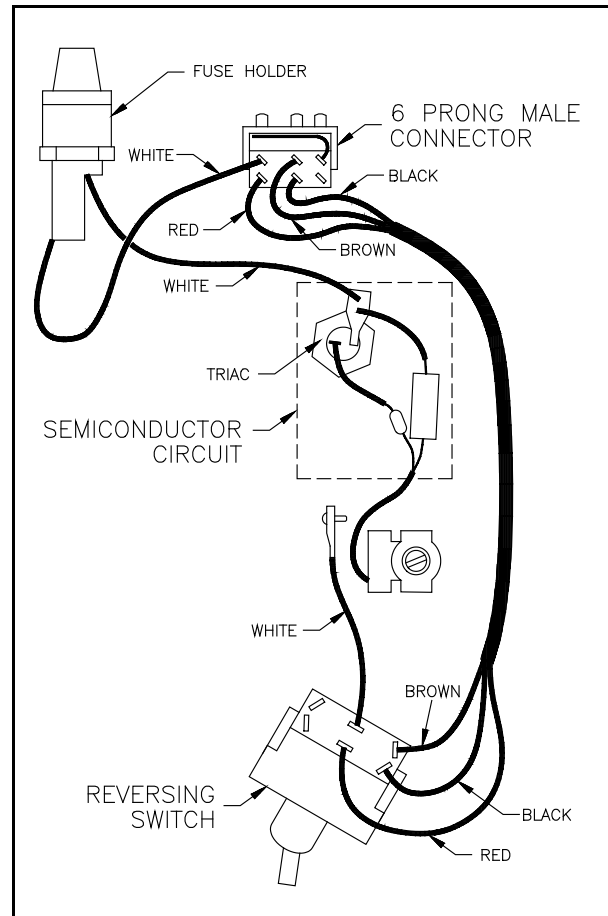
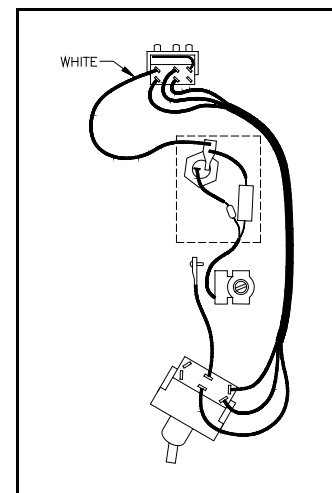

Figure 5. Foot Control Wiring Diagram
Figure 6. No Fuse
- 6.1.5 Disconnect the white wire at the fuse holder. See Figure 5. (If the foot control does not have a fuse, unsolder the white wire from the terminal on the 6 prong connector. See Figure 6.)
- 6.2.3 Connect the red, brown and black wires to the correct terminals on the reversing switch. See Figure 5.
- 6.2.4 Connect the white wire to the terminal on the end of the fuse holder. Make sure the white wires are connected to the fuse holder as illustrated in Figure 5.
- 6.2.5 If the foot control does not have a fuse, unsolder the white wire with the connector from the new 6 prong connector. Solder the white wire from the triac to the terminal on the 6 prong connector. See Figure 6.
- 8.1.8 Disconnect the white wire that connects the triac to the fuse holder. See Figure 5. (If the foot control does not have a fuse, unsolder the white wire at the terminal on the 6 prong connector. See Figure 6.)
- 8.3.2 Connect the white wire that comes from the triac to the fuse holder. Make sure the white wires are connected to the fuse holder as illustrated in Figure 5. (If the foot control does not have a fuse, cut the connector from the end of the white wire that comes from the triac. Strip the wire 3/16" and solder it to terminal #1 of the 6 prong connector. See Figure 6.)
- 8.3.3 Connect the white wire that comes from the heat sink to the correct terminal on the reversing switch. See Figure 5.
- 9.2.3 Connect the wires to the correct lugs. See Figure 5. (or Figure 6.).